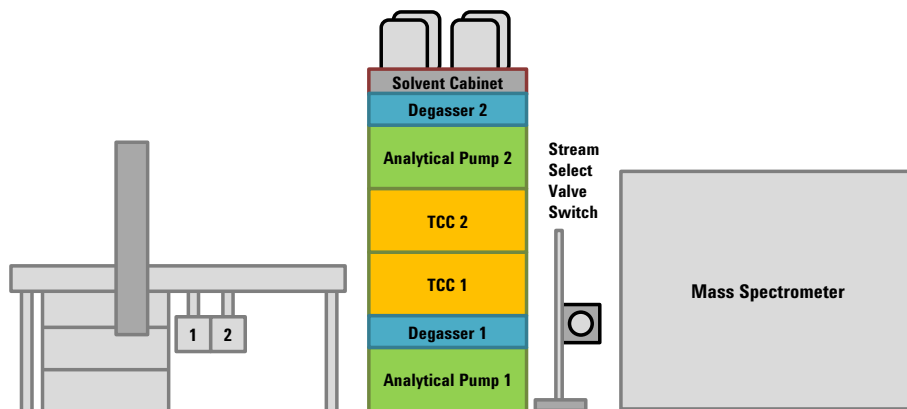
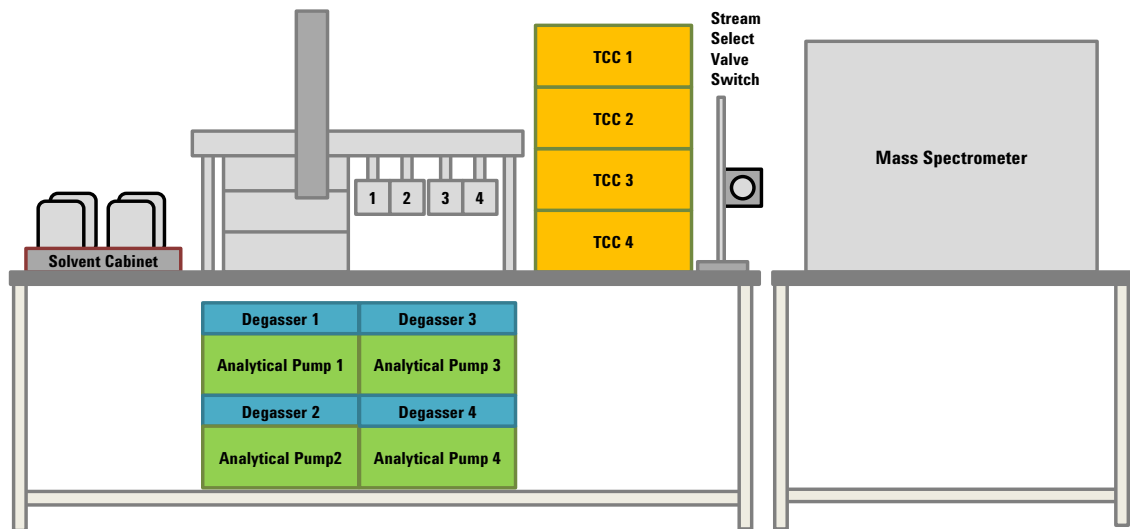

Figure 1 Recommended layout for 2-stream systems *without* online sample cleanup
Figure 2 Recommended layout for 3-stream and 4-stream systems *without* online sample cleanup
- a Follow the layout shown in the Figure 1 (2-stream system) or Figure 2 (3-stream or 4-stream systems):